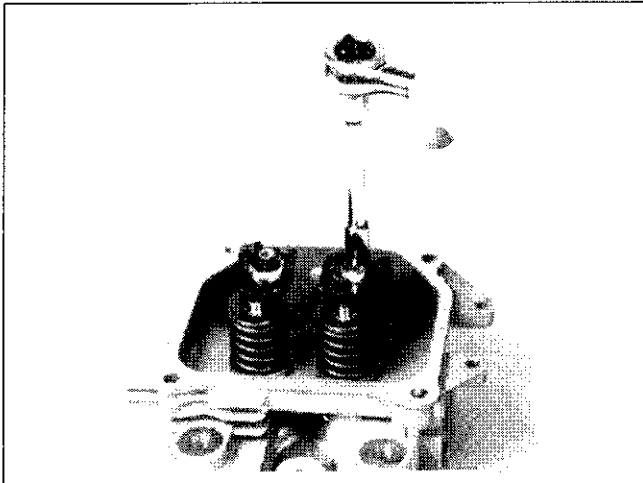

Figure 9-48. Removing Rocker Arms.
1. Remove the two hex. flange screws, rocker arm pivots and rocker arms from cylinder head. See Figure 9-48.